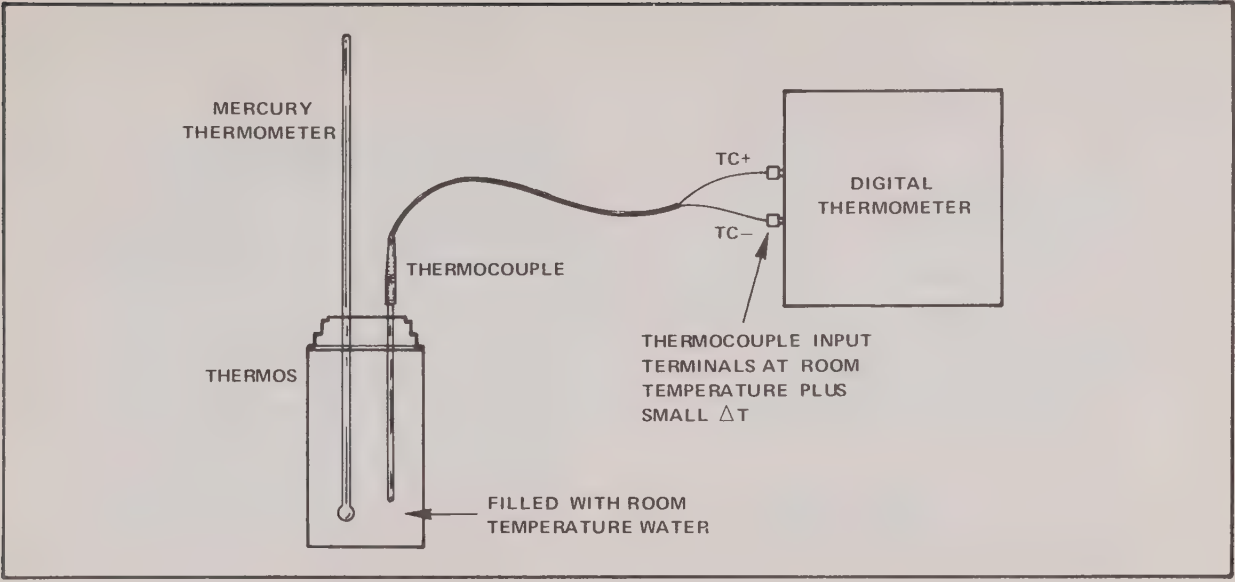

Figure 4-3. ROOM TEMPERATURE LAG BATH
- Place the thermocouple in a room-temperature lag-bath. (See Figure 4-3 for an illustration of lag-bath construction. Two holes should be drilled in the thermos lid to provide a snug fit for the mercury thermometer and thermocouple probe.)
- b. Place the thermocouple in a room-temperature lag bath. (See Figure 4-3 for an illustration of lag-bath construction.)
- e. Place the thermocouple in a room-temperature lag bath. (See Figure 4-3 for an illustration of lag-bath construction.)